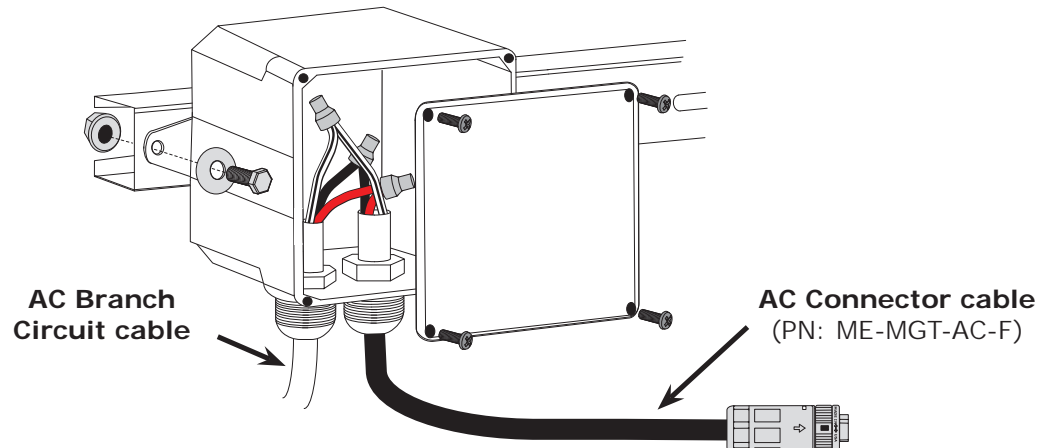

Figure 1, Attaching and Wiring the Junction Box
2. Connect the cables to the AC branch circuit junction box (Figure 1).
- Plug the AC Connector cable's female end (other end hardwired to junction box – Figure 1) into the male AC connector of the first MicroGT. Twist the connector's collar (until you hear a "click") to lock the two together.